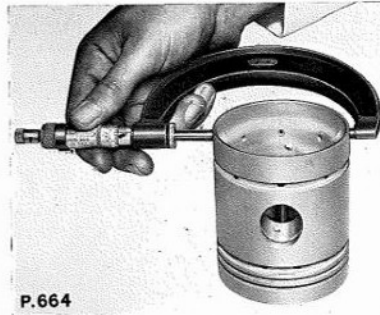

Fig. B.40. Measuring the piston diameter, using a micrometer
1. Pistons are finished ground slightly oval in the plan view, the greater dimension, i.e., major axis being at 90° to the gudgeon pin hole. In addition to this, the pistons taper slightly from the top to the bottom. In view of this ovality and tapering in design, measurement for the maximum diameter must be made at the bottom of the piston skirt and at 90° to the gudgeon pin boss (see Fig. B.40).